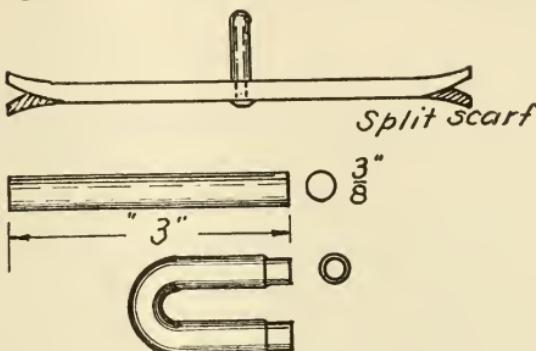

FIG. 210.—IRONS FOR RING AND STAPLE OF CLIP.
When it is riveted in place, the hook must be inside the staple. Punch two holes 1" apart and in the middle of the length, then lay aside until the other two pieces are prepared. (Fig. 210.)
4. The staple is simply tapered at each end down to $\frac{1}{4}$ " diameter, but not to a point, and bent as shown in Fig. 210.